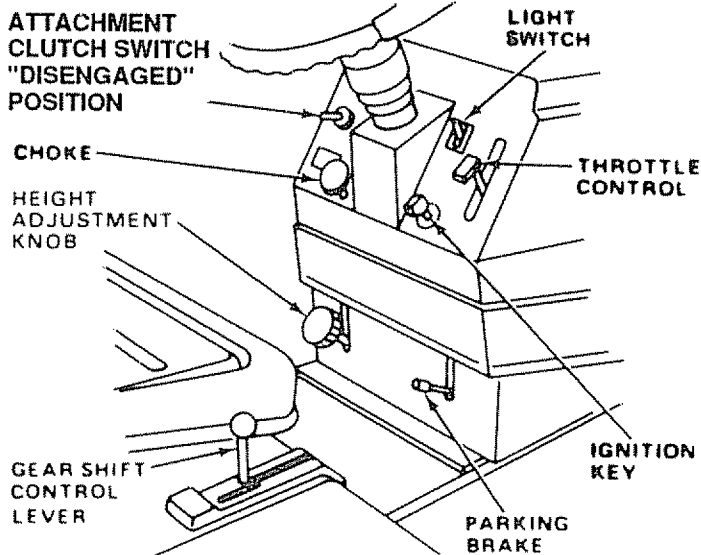

FIGURE 15
- b. Move gear shift lever to "NEUTRAL" position (Fig. 15).
- d. Place attachment clutch switch in "DISENGAGED" position (Fig. 15).
- e. Move throttle control to "S" (slow) position (Fig. 15).
- f. Turn ignition key to "OFF" position (Fig. 15)
- c. Place attachment clutch switch in "disengaged" position (Fig 15)
- e. Place gear shift lever in "NEUTRAL" position (Fig 15)
- f. Pull choke out (Fig 15)
- g. Move throttle control to middle position (Fig 15)
- a Select desired height of cut position using height adjustment knob (Fig 15)